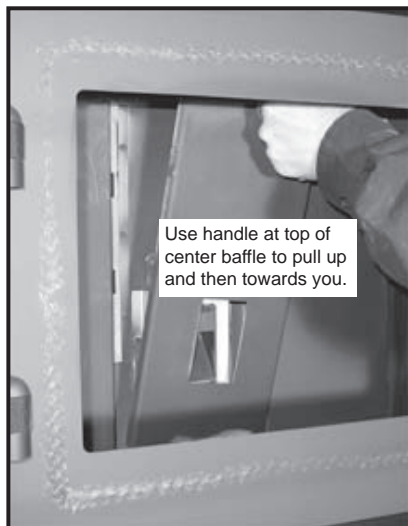

Figure 21.2
2. Remove the center baffle first by using the handle at the top of the baffle and pull up and then towards you. The hooks on the baffle will slide out of the slots in the bracket. **Figure 21.2**